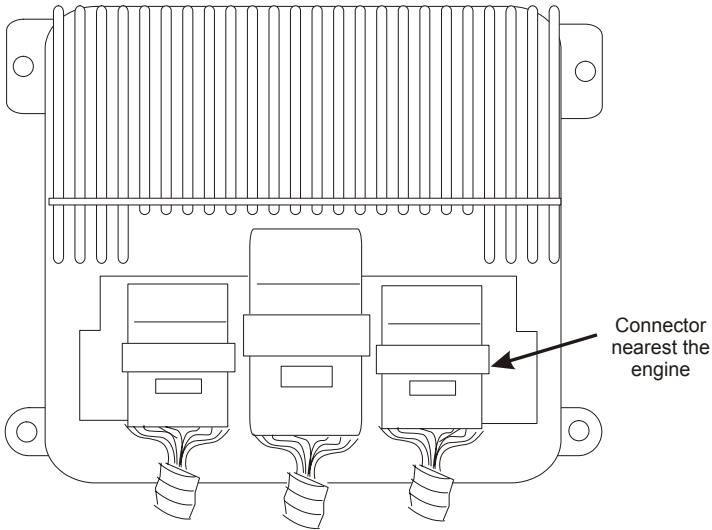

Figure 4.3
- Locate the connector nearest to the engine on the ECM (Figure 4.3). Peel back the tape on the wire bundle for easier access to the wires.